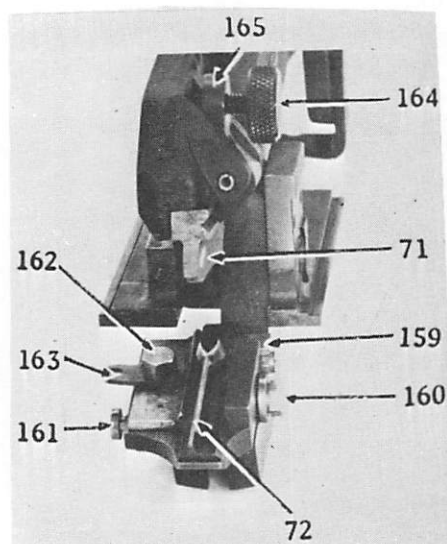

Fig. 29 Showing the Cutter
Buttonhole Cutting Knife. The buttonhole cutting knife (72, Fig. 29) is made in two styles: for eyelet-end buttonholes and for straight buttonholes. The cutting knife used must conform with the cutting block (71, Fig. 29) which is set in the machine. For example, in Machine 299U130, for cutting a one inch eyelet-end buttonholes with medium size eye, without bar, cutting knife 256654 must be used with cutting block 548766 and for cutting 3/4 inch straight buttonhole, cutting knife 548066 must be used with cutting block 548754.
The knife is held in position on the lower cutting lever and can be adjusted sidewise or endwise as may be necessary to align the knife with the center of the stitching of the buttonhole. The adjustable stop (159, Fig. 29) is provided to correctly locate the knife endwise so that the eyelet end of the knife will cut exactly in the eye of the buttonhole. When this stop is once set in position, it is unnecessary to change it as the knife can be removed and replaced or a new knife substituted, the correct alignment of the knife endwise being determined by having the projection on the stop (159) enter the notch in the right side of the knife. The buttonhole cutting knives are made interchangeable, having the same relative position in the machine.
In case the knife is not cutting in the center of the buttonhole, it can be adjusted sidewise by means of the screw (160, Fig. 29) at the right of the knife and a screw (161, Fig. 29) at the left of the knife, after loosening the clamping screw underneath the knife in the knife holder. To move the knife to the right, take out the knife as instructed, loosen the clamping screw underneath the knife in the knife holder, then loosen the screw (161) at the left of the knife and tighten the screw (160) at the right of the knife. To move the knife to the left, loosen the screw at the right of the knife and tighten the screw at the left of the knife. When the correct position of the knife is obtained, firmly tighten the three screws.
To remove the knife (72) loosen the hexagon screw (162, Fig. 29) only enough to loosen the eccentric lever (163, Fig. 29) and insert the end of the screwdriver in the hole in the eccentric lever (163), then turn the lever to the front and lift out the knife. To replace the knife, slide the knife into position from the left so that the projection on the stop (159) will enter the notch on the right side of the knife. Then with the screwdriver, turn the eccentric lever (163) as far to the rear as it will go and tighten the hexagon screw (162).
Buttonhole Cutting Block. The buttonhole cutting block (71, Fig. 29) is made in various sizes for different lengths and styles of buttonholes. For example, in Machine 299U130, for cutting a one inch eyelet-end buttonhole without bar, cutting block 548766 must be used, and for cutting 3/4 inch straight buttonhole, cutting block 548754 must be used.
The buttonhole cutting block is fastened to the upper cutting lever by means of the thumb screw (164, Fig. 29) on the clamping plate (165, Fig. 29). The cutting block must be pushed back against the stop in the cutting lever, so that when it